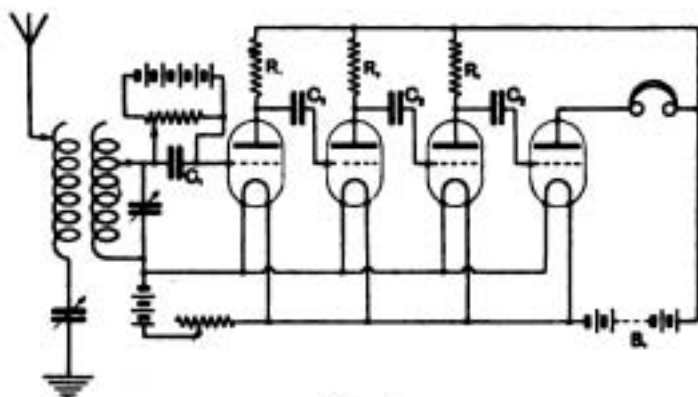

Fig. 1.
V.E.S. (Alexandria) asks (1) If V24 valves are more sensitive than Q's, as he has a 3 Q valve commercial receiver which gives little better results than a Type 31. (2) If any secondhand Multiple Tuners are procurable, and if so, at what price. (3) For an opinion of a set sketched (Fig. 1).
(1) No. The set described must be either very poorly designed or there must be some fault in its